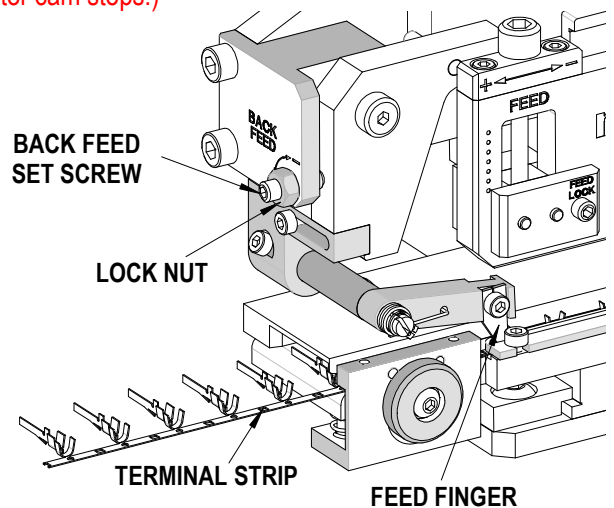

Figure 4-10
7. Tighten the lock nut when adjustment is complete. See figure 4-10.